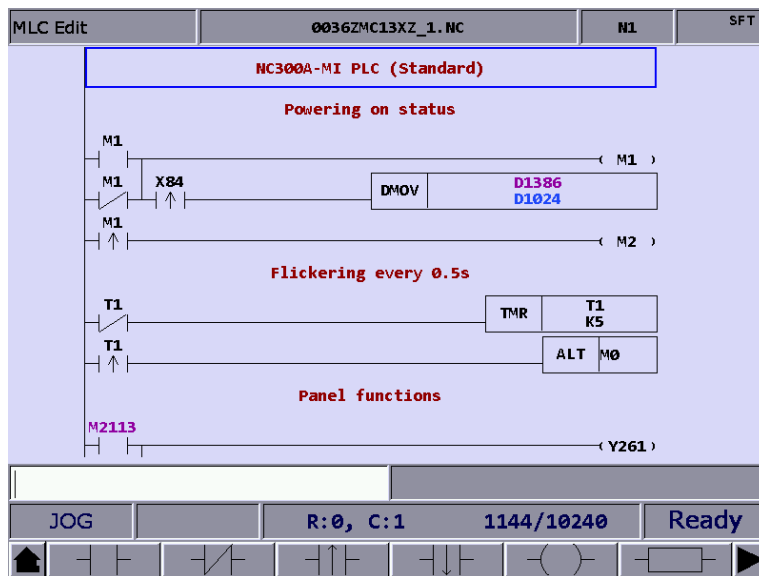

Figure 9.3.5.1
Basic MLC commands, including LD, LDI, LDP, LDF, OUT, APP, —, and |, are created with the function of MLC editing, as shown in Figure 9.3.5.1.
- (1) Press **DGN** to enter the DGN screen.
- (2) Press **MLC** to display the function bar in the second layer.
- (3) Press **EDITOR** to enter the MLC Edit screen as shown in Figure 9.3.5.1.
- (4) Press **↑**, **↓**, **←**, and **→** to move the cursor to the field to be edited.
- (5) Enter the device name and press **LD** to complete creating the device.